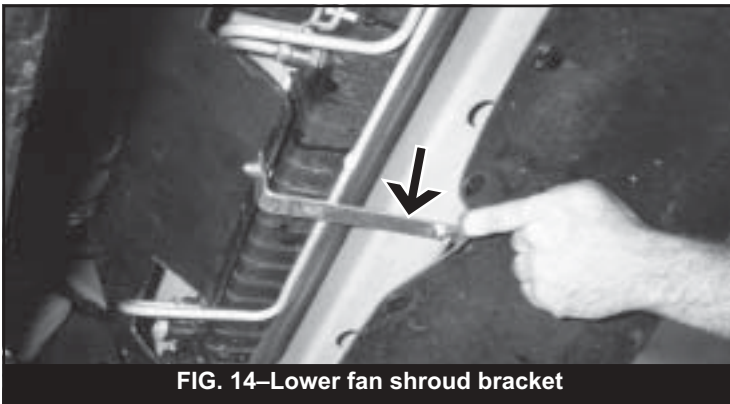

FIG. 14—Lower fan shroud bracket
59. Attach the lower fan shroud bracket (Fig. 14). Hold the bracket in the proper location and use the bracket as a template to mark the hole locations. Drill 9/32" holes at the marks on the core support and fan shroud. **Note: It may be necessary to pull back on the air flap mounted to the core support to locate mounting hole for the bracket.**